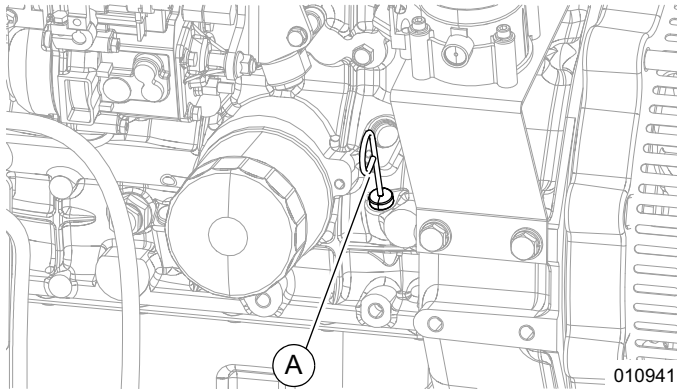

Figure 5-16. Oil Level Dipstick (3.3L Engine)
1. See Figure 5-16. Remove dipstick (A) and wipe with a clean cloth.